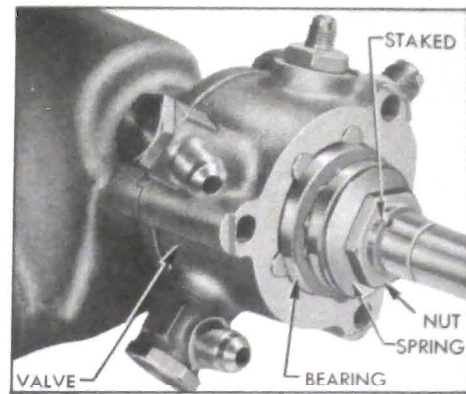

Figure 8-23—Thrust Bearing and Nut
11. Remove hydraulic valve cover. Drive up edge of worm bearing nut where staked into worm shaft keyway, using suitable chisel, then remove nut, spring (washer) and thrust bearing. See figure 8-23.
13. Stake outer edge of worm bearing nut down into keyway of worm shaft (fig. 8-23), making sure that nut does not turn from its adjusted position.